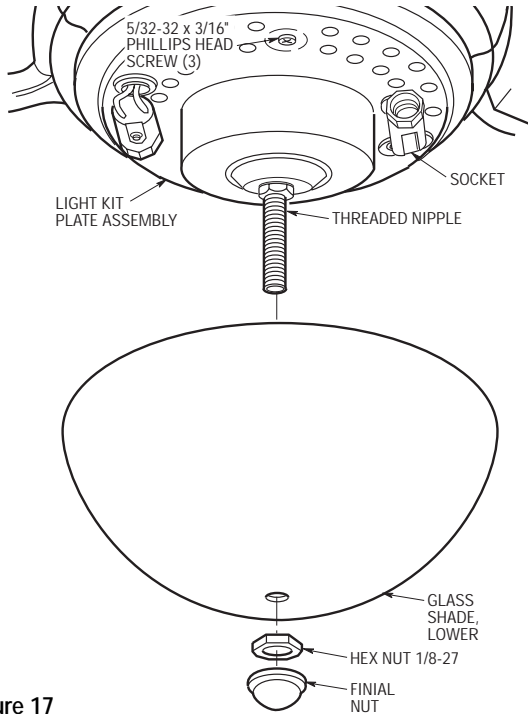

Figure 17
- 7. Secure the light kit plate assembly to the light kit adapter assembly by installing three 5/32-32 x 3/16" phillips head screws (supplied) into the threaded holes in the adapter assembly (Figure 17).
- 8. Install two candelabra base lamps in the sockets of the light kit adapter plate (Figure 17):
- 9. Position the glass shade over the threaded nipple in the light kit plate assembly (Figure 17). Seat the glass shade evenly over the plate assembly and securely install the hex nut and finial nut (supplied) on the threaded nipple.